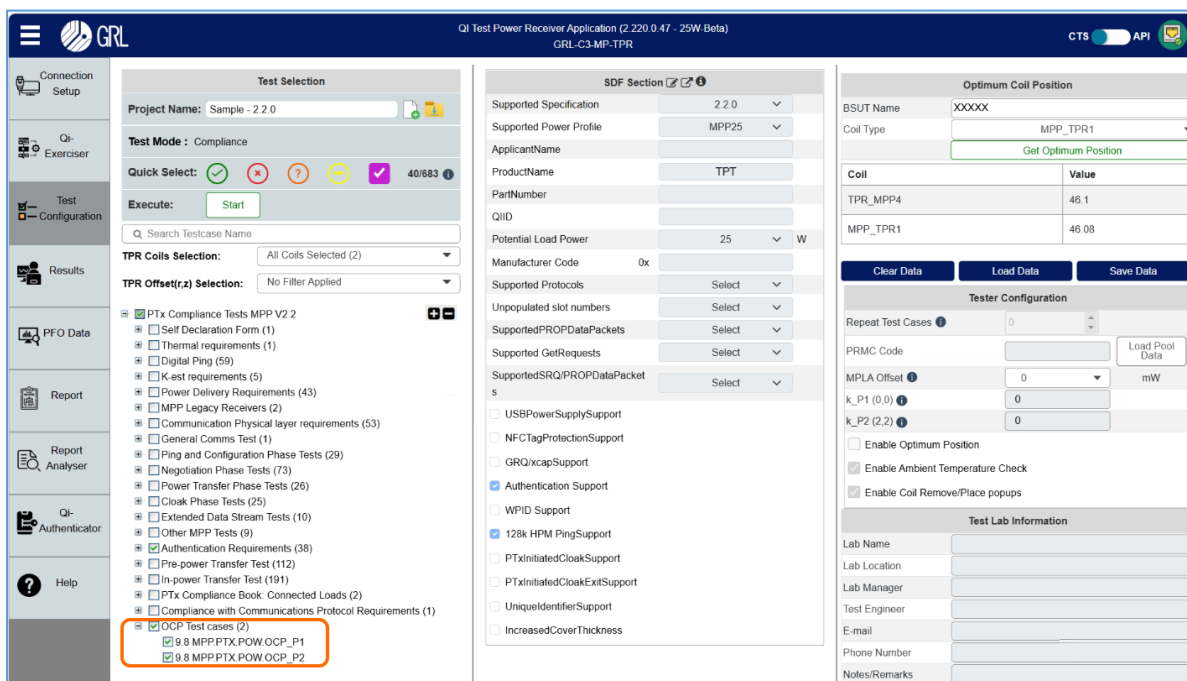

FIGURE 4.7: SELECT SHORT CIRCUIT TEST CASES
8. Select the “OCP Test cases” from the test list as indicated in Figure 4.7 below.